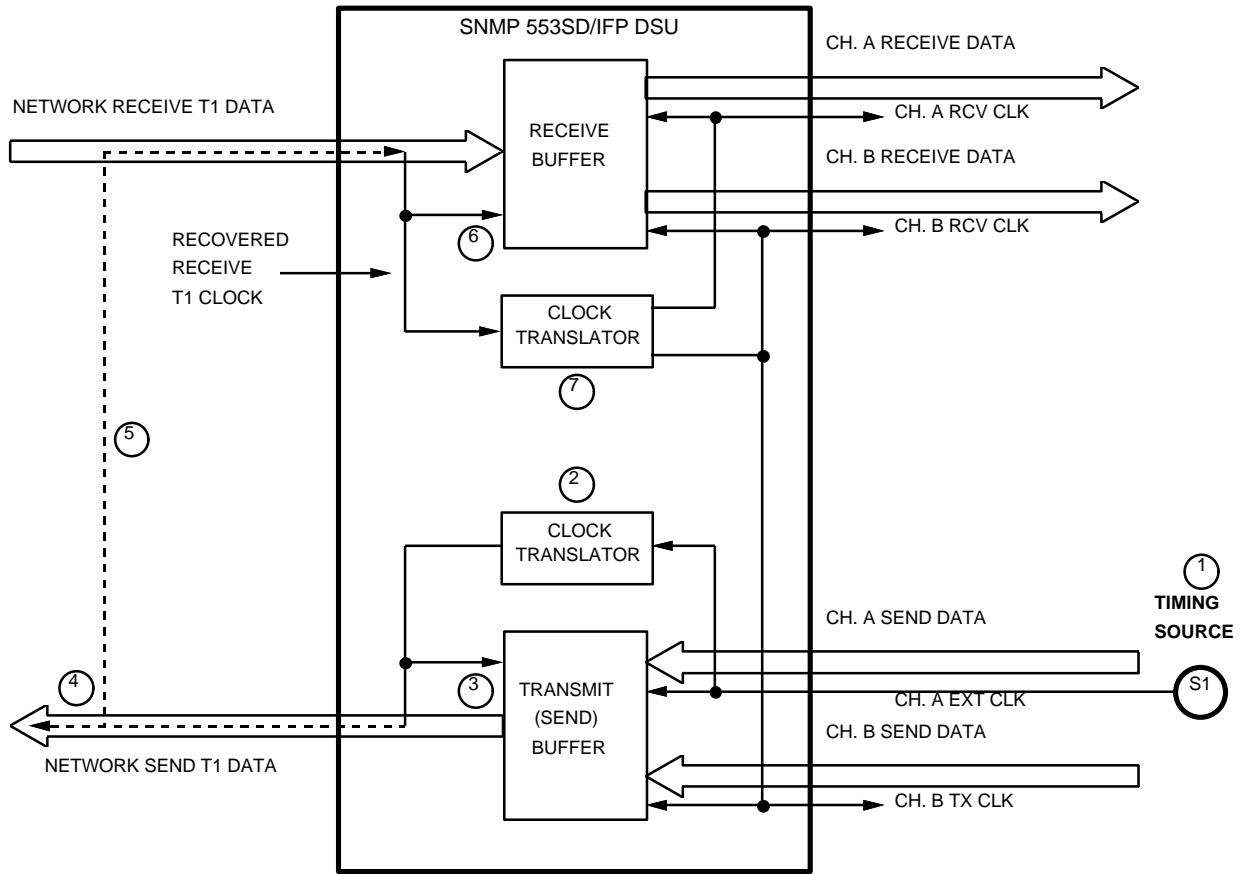

Figure C-3 Channel A Timing
Channel Timing includes Channel A Timing and Channel B Timing. With Channel A Timing, illustrated in *Figure C-3*, the customer equipment on Channel A provides its own channel transmit clock signal (1) on the appropriate interface lead. The SNMP 553SD/IFP DSU translates (2) this clock to provide the send timing source for T1 data output from the transmit buffer (3) to the network. The remote DSU uses this as its timing reference (4) and loops it back to the local DSU (5). The local DSU recovers the receive T1 clock from the network receive T1 data and uses it to clock T1 data into the receive buffer (6). The DSU also translates (7) the receive T1 clock to provide the channel transmit clock signal for Channel B and the receive clock signals for both channels, on the appropriate interface leads for each channel.